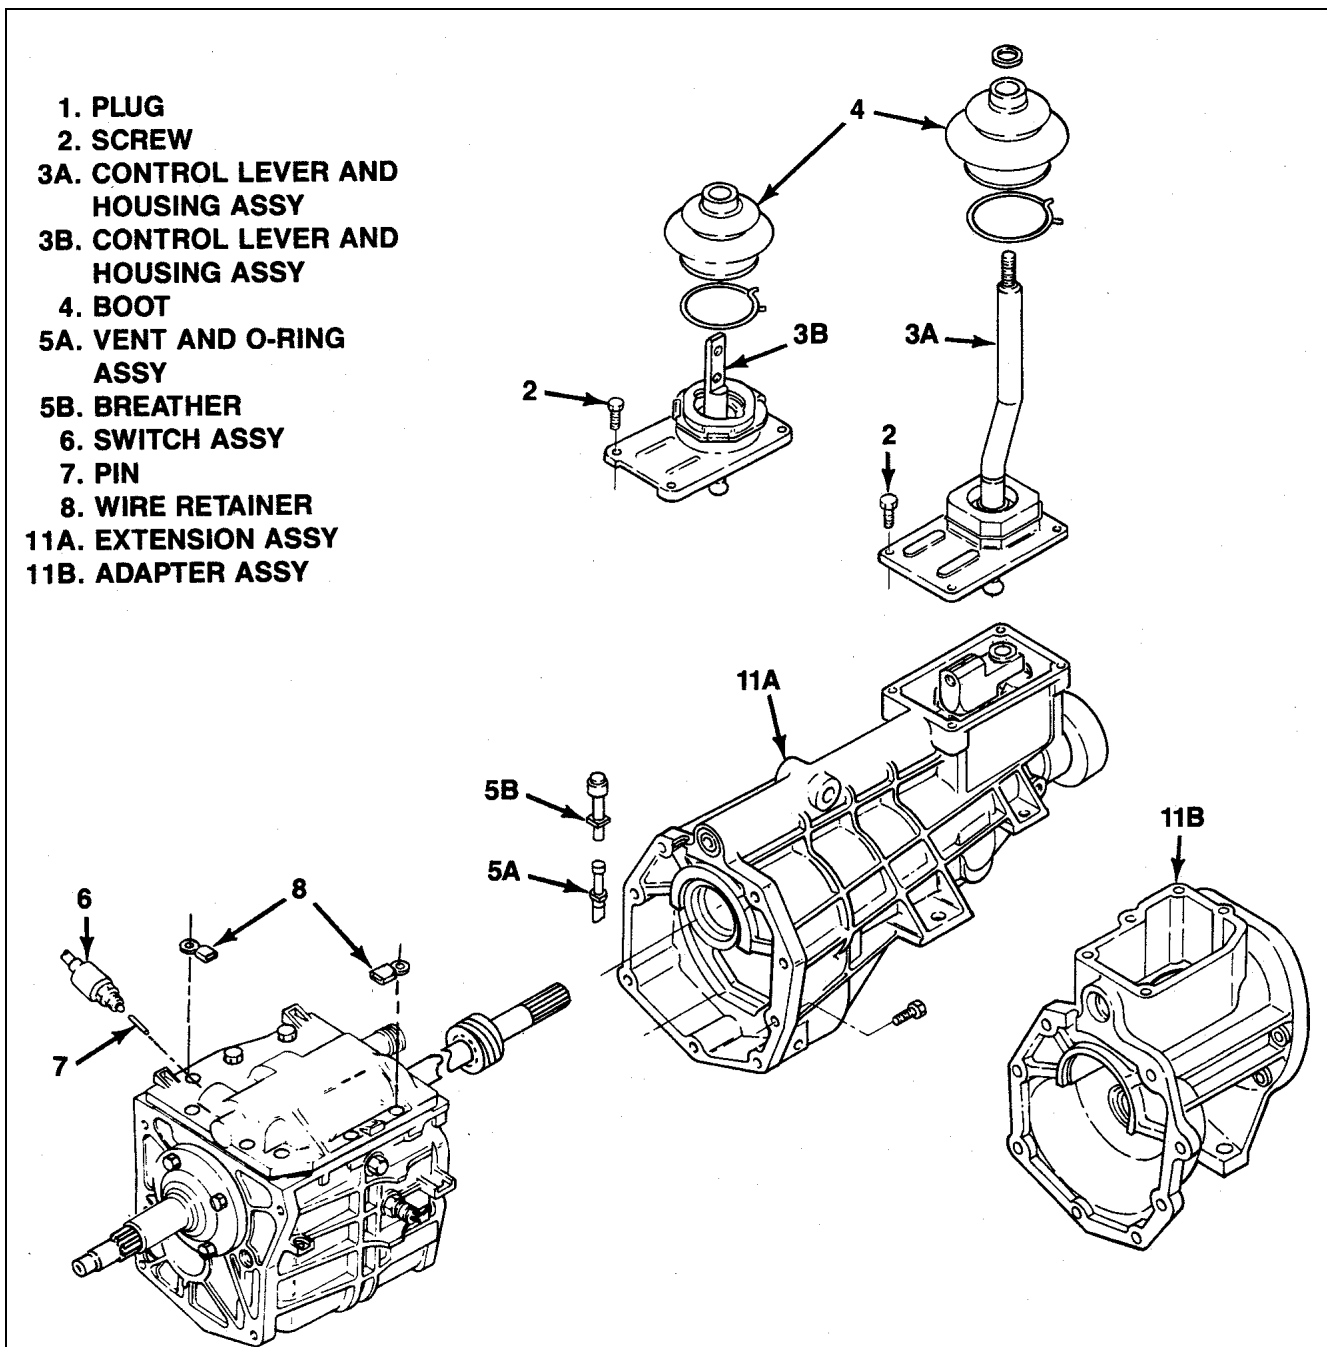

Figure 4-1. T5 STD Control Lever Housing & External Components
**4-7. REMOVAL OF T5 STD CONTROL LEVER AND HOUSING ASSEMBLY AND EXTERNAL COMPONENTS.** Cleans transmission exterior, support on suitable holding fixture and proceed as follows (see figure 4-1):
- a. Remove fill and drain plugs (1) and drain all fluid from transmission.